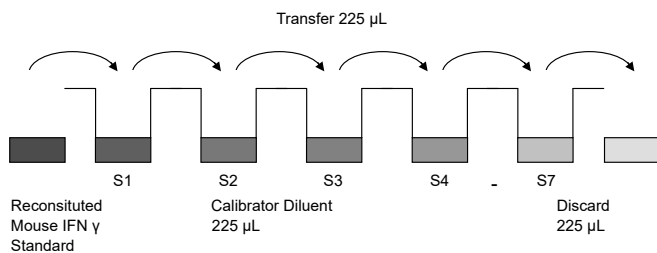

Figure 6 Dilute standards - tubes
- Repeat serial dilutions 5 more times thus creating the points of the standard curve (see Figure 6).